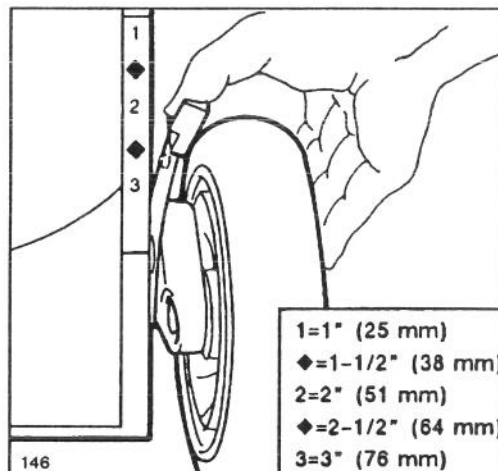

Figure 11
2. For easier adjustment, lift housing up so wheel is off ground. **Do not place hands under deck to lift housing.** Squeeze adjusting lever toward wheel and move to desired setting (Fig. 11). Ensure pin on adjusting lever engages notch in housing. Adjust all wheels to the same setting.